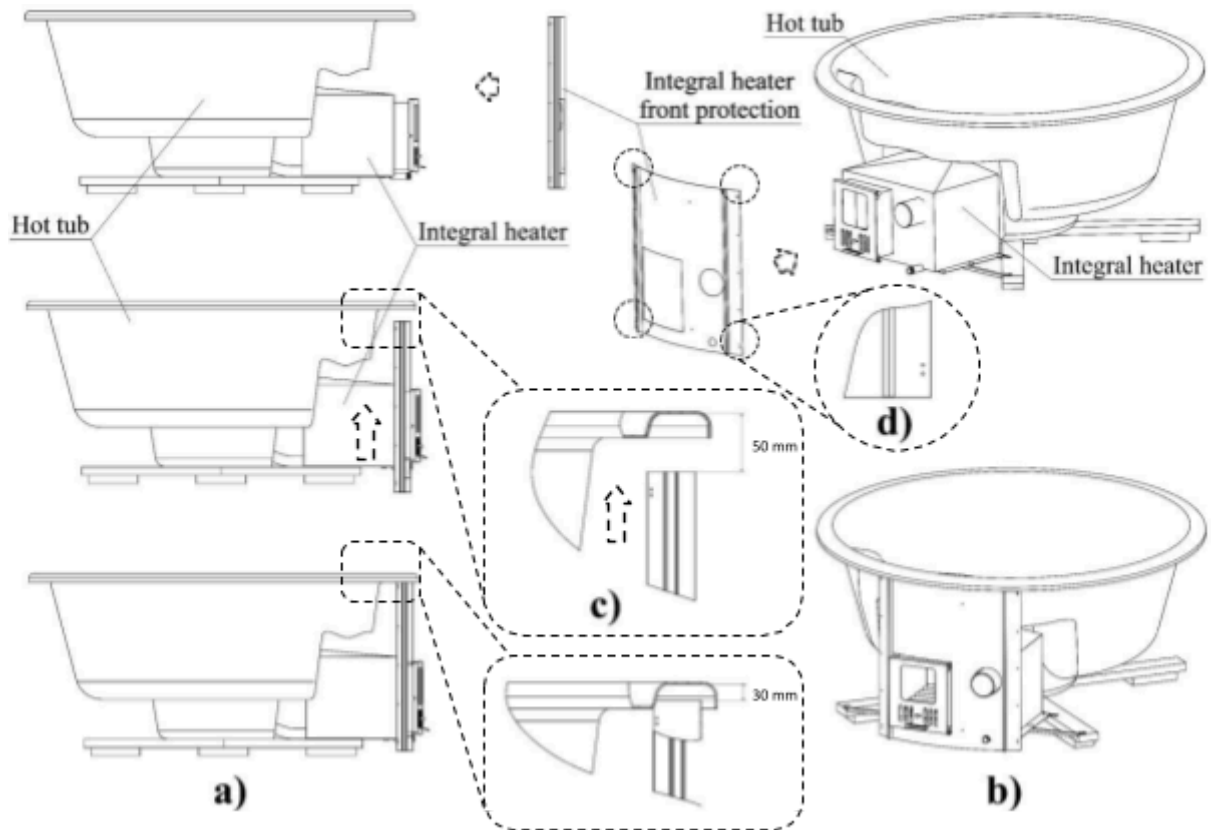

Figure 4. Attachement of integral heater front protection to a hot tub (*Assembly step 2*).
- Step 2. Attach the integral heater front protection to a hot tub (see Fig. 4).